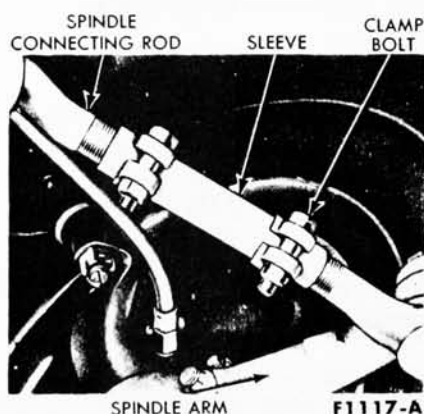

FIG. 6—Spindle Connecting Rod Sleeve
1. Loosen the two clamp bolts on each spindle connecting rod sleeve (Fig. 6).